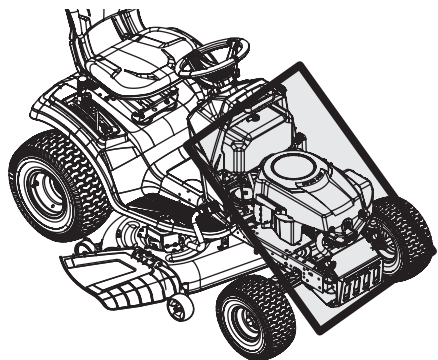

Figure 31
- Clean under the hood, including exhaust manifold, around fuses, all wiring and harnesses, muffler pipe, muffler shield, engine intake screens and cooling fins, etc. See Figure 31.